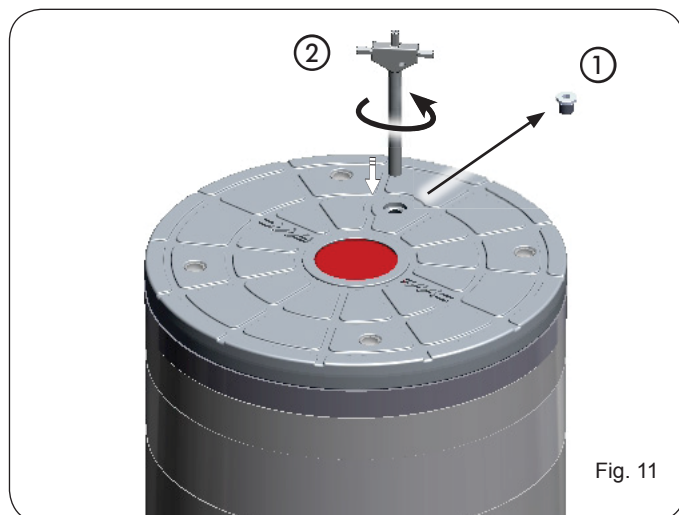

Fig. 11
1. Loosen the closing screw located on the bollard head (fig. 11 ref. ①).
3. Turn counter-clockwise to lower the bollard (fig. 11 ref. ②).